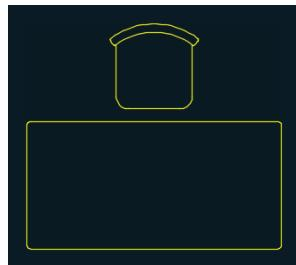

FIGURE 7.10 Chair block inserted 3" from the desk
5. Hold Shift, right-click, and choose From in the context menu. Click the midpoint of the upper desk edge, type **@0,3** (or **@0,7** for metric), and press Enter. The Chair block reference appears 3" (or 7 cm) up from the center of the desk (see Figure 7.10).